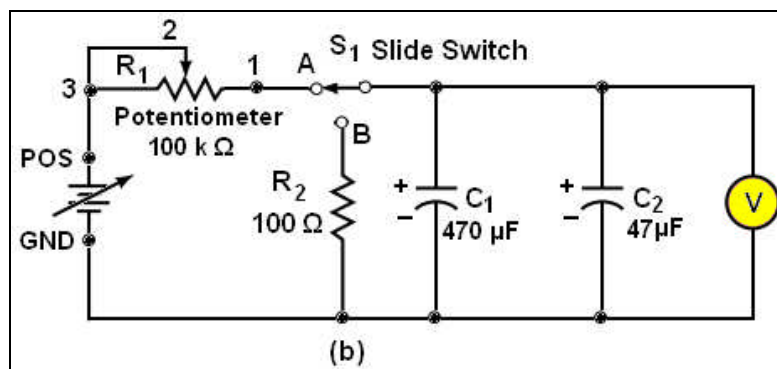

Fig. 2-4 Capacitors in Parallel
12. Construct the circuit shown in Fig. 2-4.
14. Add the 47μF capacitor (C₂) in parallel with C₁, (Fig. 2-4). Once again carefully measure the RC time constant. The time constant is: